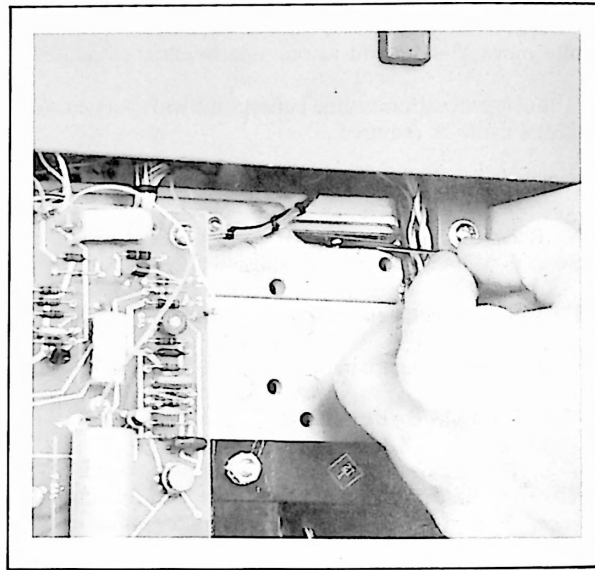

Figure 5-18. Y-Axis Alignment Adjustment
- b. Stand recorder on front side. Slide carriage to extreme right. Line up upper end of pen arm with access hole provided. See Figure 5-18. Rear of recorder at bottom of pen arm provides accessibility and visibility.
- c. Loosen large screw at top of slider block. Loosen nut clamping cable through provided hole. See Figure 5-18.